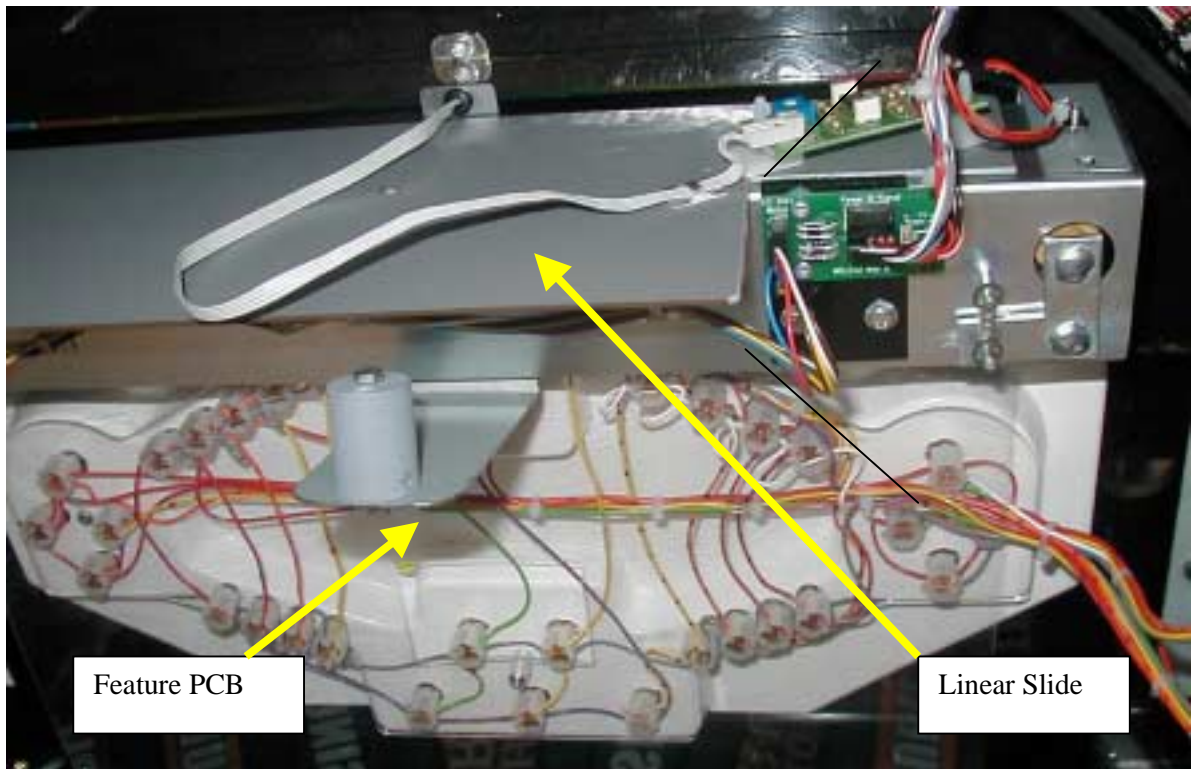

Figure 12 The Bonus Panel.
8. Using an 8mm socket or appropriate spanner, remove the M5 retaining bolts from the rear corners of the playfield frame, (1 at each corner, see Fig 12). Note the position of the green/yellow earth wire.